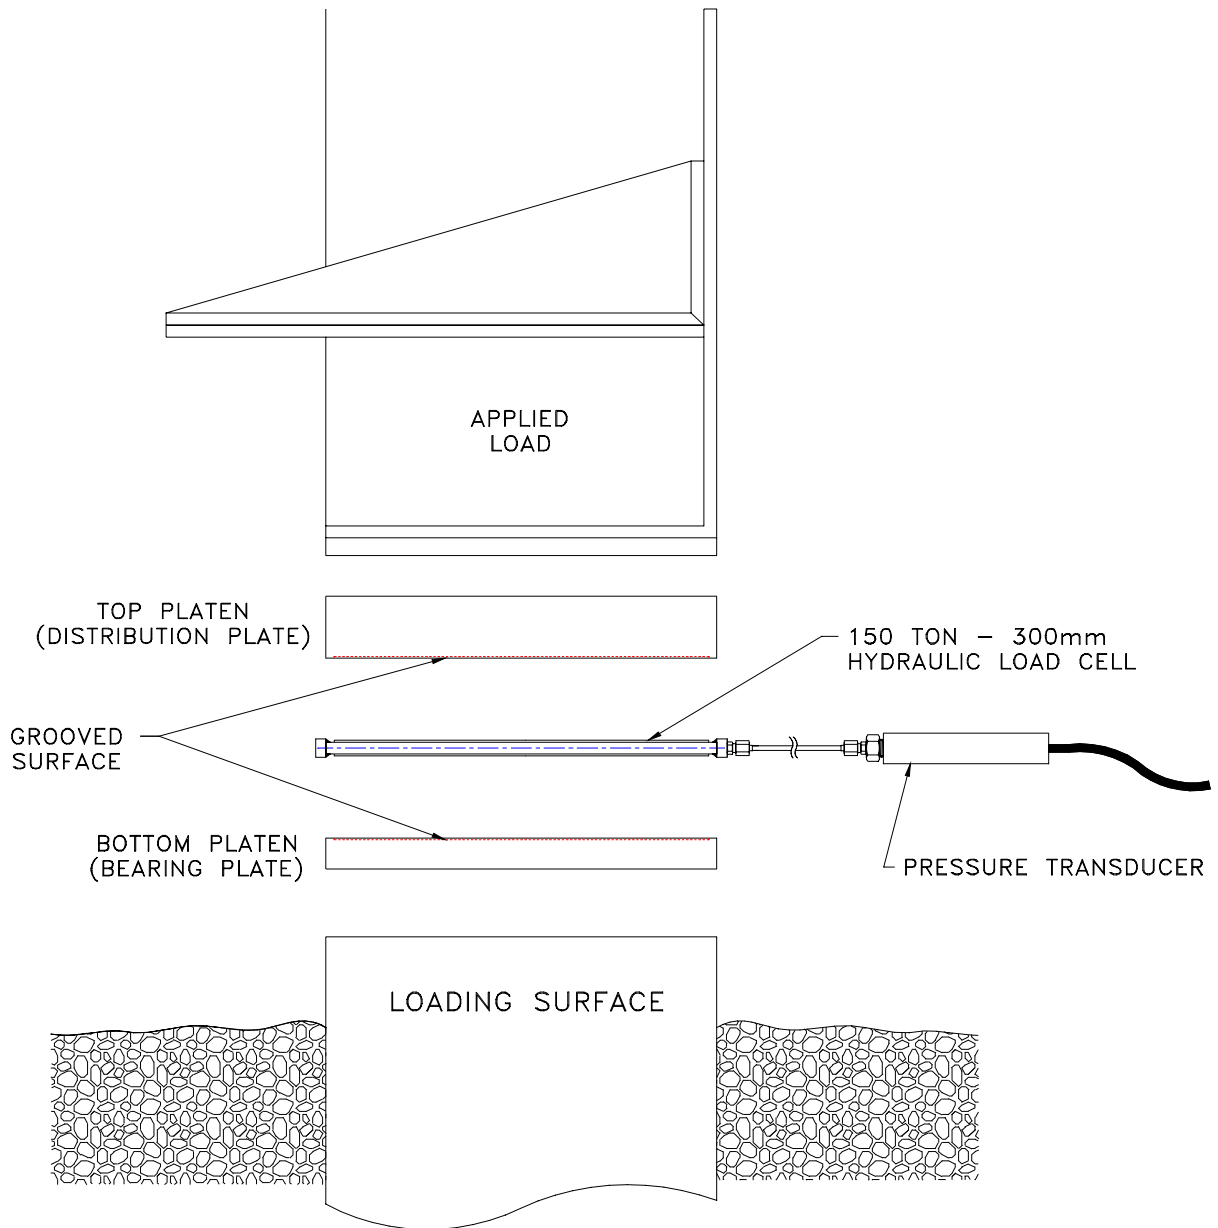

Figure 1: VW Hydraulic Load Cell
1. Place the Bearing Plate onto the loading surface, making sure the grooved surface of the Bearing Plate is facing up (see Figure 1)